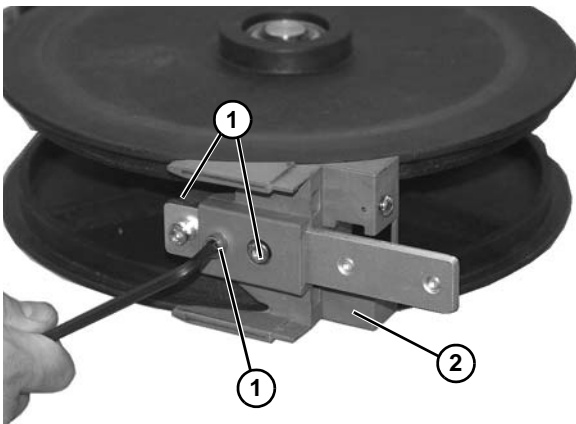

Figure 123
1. Remove screw (Figure 123, item 1) on both sides of guard cover (Figure 123, item 2). Remove guard cover.
2. Remove screws (Figure 123, item 1) from wheel guide (Figure 123, item 2).